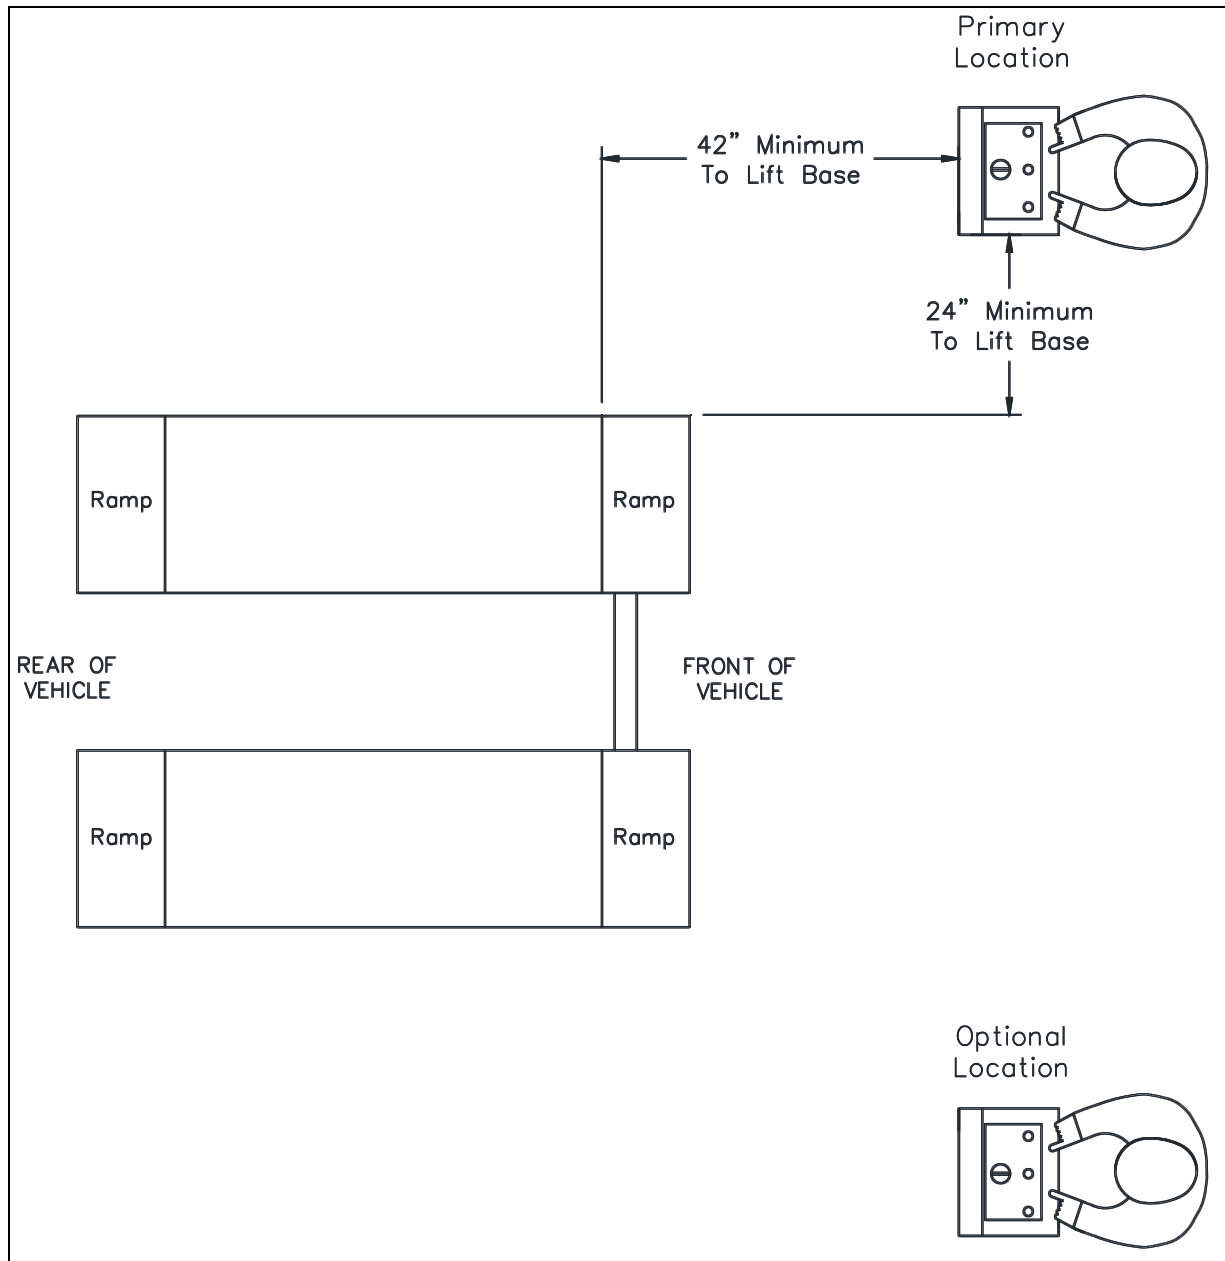

Fig. 2 – Control Console Placement
E Distance to Controls	Refer to Fig. 2
- 2) See **Fig. 2** for control console location. Relocating the control console further away than the standard distance will require the installer to provide suitable hydraulic hoses and air line. Additional hose covers will also be needed if installing lift in surface mount configuration. Hydraulic hoses should be 1/4" minimum ID with a minimum working pressure of 3000 psi and a minimum burst pressure of 12,000 psi with #6 JIC Swivel Female fittings. The air line for the locks requires Ø6mm OD x 1mm wall poly tubing. **NOTE: Extend both hydraulic hoses the same length and do not extend the hoses more than 21 feet [252 in].**
- 7) Place Control Console as shown in **Fig. 2** for surface mount or flush mount applications. Operator should be in a position to notice any misalignment of lifting pads or vehicle during operation. Challenger Lifts does not recommend placing the console in a different location or orientation and doing so would be the responsibility of the installer and/or end user.